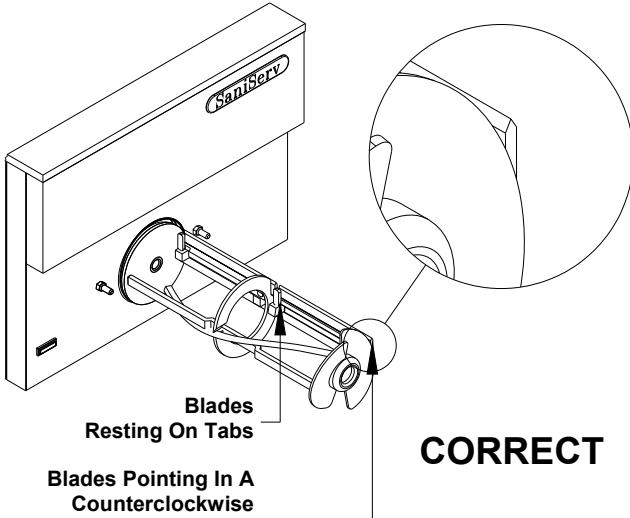
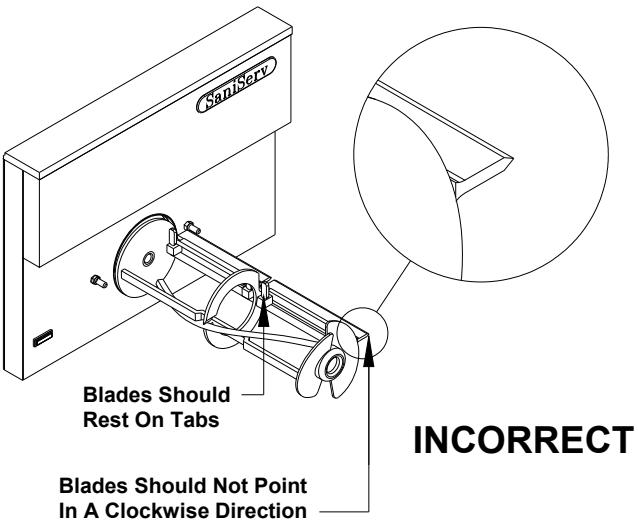

Fig. 15
Fig. 16
- e. Insert the dasher assembly into the freezing cylinder as far as possible (Fig. 15) being careful not to damage the scraper blades. Damage will occur to the scraper blades and the dispenser will not operate properly if the scraper blades are installed facing in a clockwise direction (Fig. 16).
Note: The stator rod has been deleted from Fig. 15 and Fig. 16 for clarity only. They must be installed for proper machine operation.